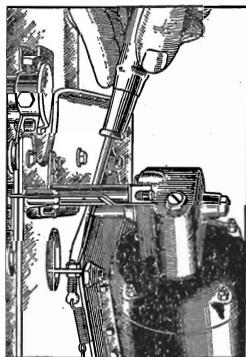

Figure 7—Adjusting lone arm cable tension screw
- (e) Incorrect adjustment of cable tension screw. The cable tension screw shown in Figure 7 should be so adjusted that the needle will lower smoothly onto the record without dropping. When this adjustment is obtained, the cable will be slightly loose when the needle is lowered onto a record. Loosen the lock nuts, turn the screw to the right or left as required and retighten the lock nut. Check the adjustment to make sure that the needle clears the record on the return of the tone arm. The needle should rise $\frac{1}{16}$ " from the record before any horizontal motion takes place.
(5) NEEDLE FAILS TO CLEAR RECORD AFTER PLAYING